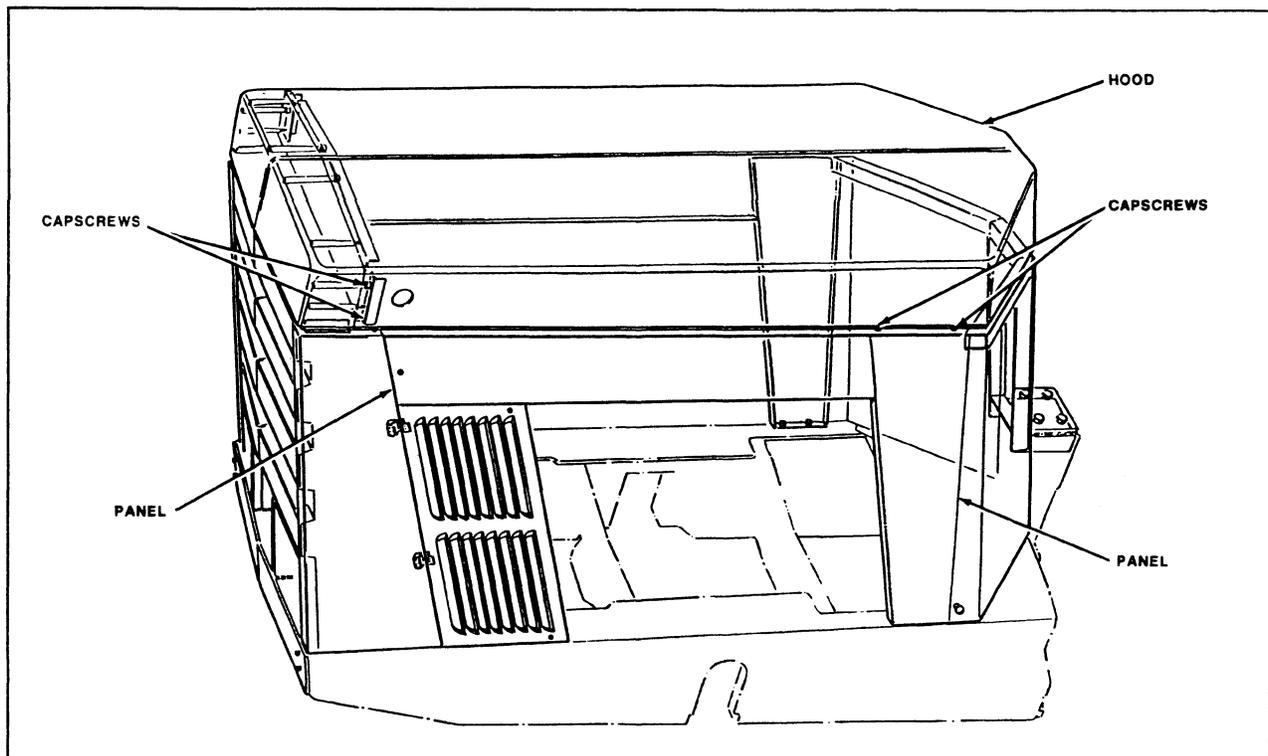

FIGURE 2-4: Engine Panels and Hood Removal
5. Remove fan guards, side panels and hood (Figure 2-4).
13. Install fan (Figure 2-4). Torque capscrews to 24 N.m (18 lbf ft).